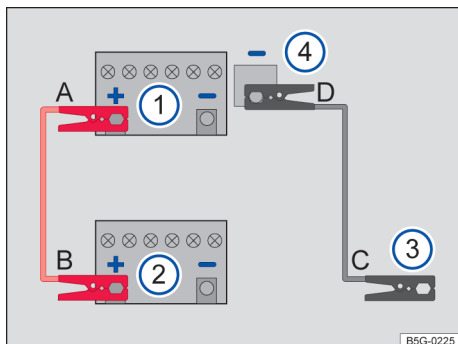

Fig. 161 Diagram for attaching the jumper cables: Dead battery ⓘ and booster battery ⓘ.
Key to **fig. 161**:
which follow the letters shown in the illustration → **fig. 161 A – B – C – D**.
3. Attach one end of the **red** jumper cable **A** to the **positive battery terminal** → **fig. 161 +** on the dead battery: ⓘ → ⚠️.
4. Attach the other end of the **red** jumper cable **B** to the **positive battery terminal** → **fig. 161 +** on the good battery (booster battery): ⓘ.
5. Attach one end of the **black** jumper cable **C** to the **negative jump-start terminal** of the vehicle **providing** assistance: → **fig. 161 ③** (→ page 234, *Jump-start terminal*), or if that is not available, to a bare metal part of the vehicle **providing** assistance. This part should be connected directly to the engine block.
6. Attach the other end of the **black** jumper cable **D** to the **negative jump-start terminal** of the vehicle **receiving** assistance → **fig. 161 ④** (→ page 234, *Jump-start terminal*), or if that is not available, to a bare metal part of the vehicle **receiving** assistance. This part should be connected directly to the engine block. Attach the clamp to a point that is as far away as possible from the dead battery ⓘ → ⚠️.